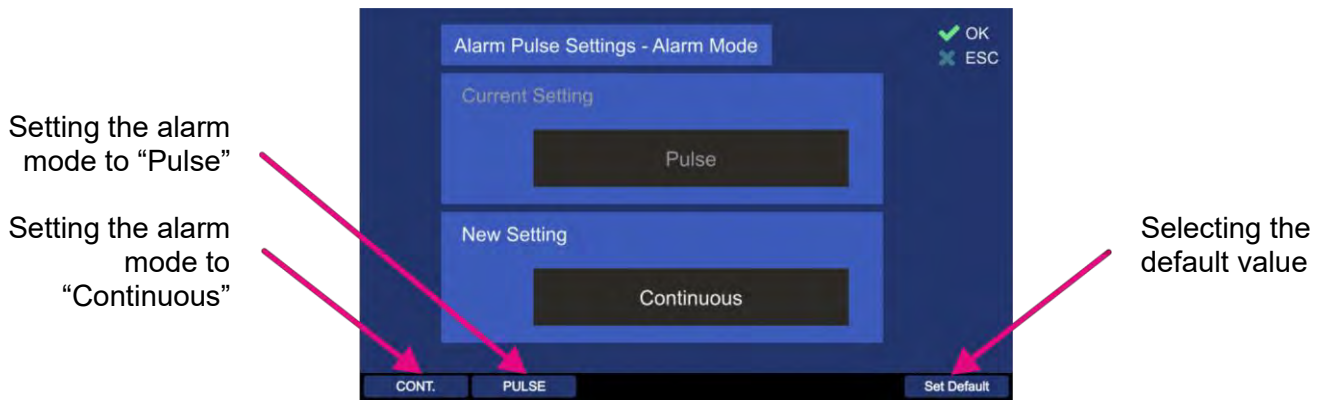

Figure 91. Alarm mode dialog
- o By pressing the hotkey “Edit Value”, the dialog for changing the alarm mode of the alarm output will be opened. The handling of this dialog is shown in Figure 91.